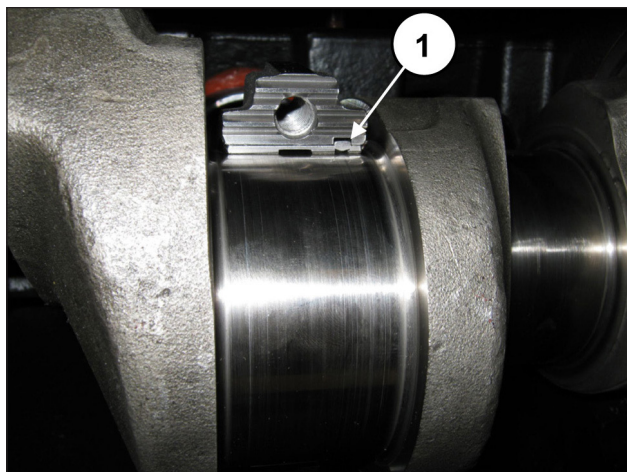

Fig. 68
For proper assembly of the half-bearings, ensure that the reference tab on the half-bearings are positioned in their housing on the half-conrod (pos. ①, Fig. 68).